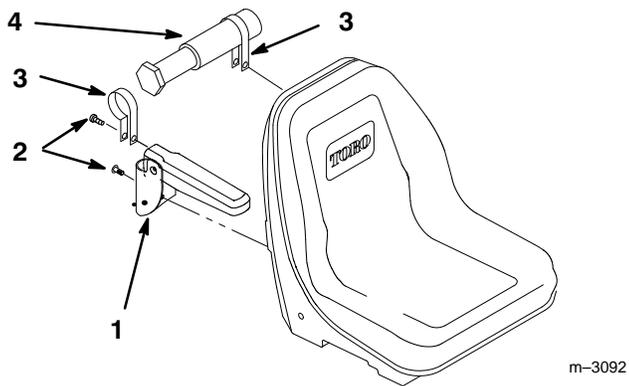

Figure 3
1. Align left and right armrests to seat back and start outer bolts (Fig. 3).
2. Place (2) R-clamps around manual tube and space to align with inside armrest mounting holes (Fig. 3).
3. Insert inner armrest bolts through R-clamps and secure to seat (Fig. 3).